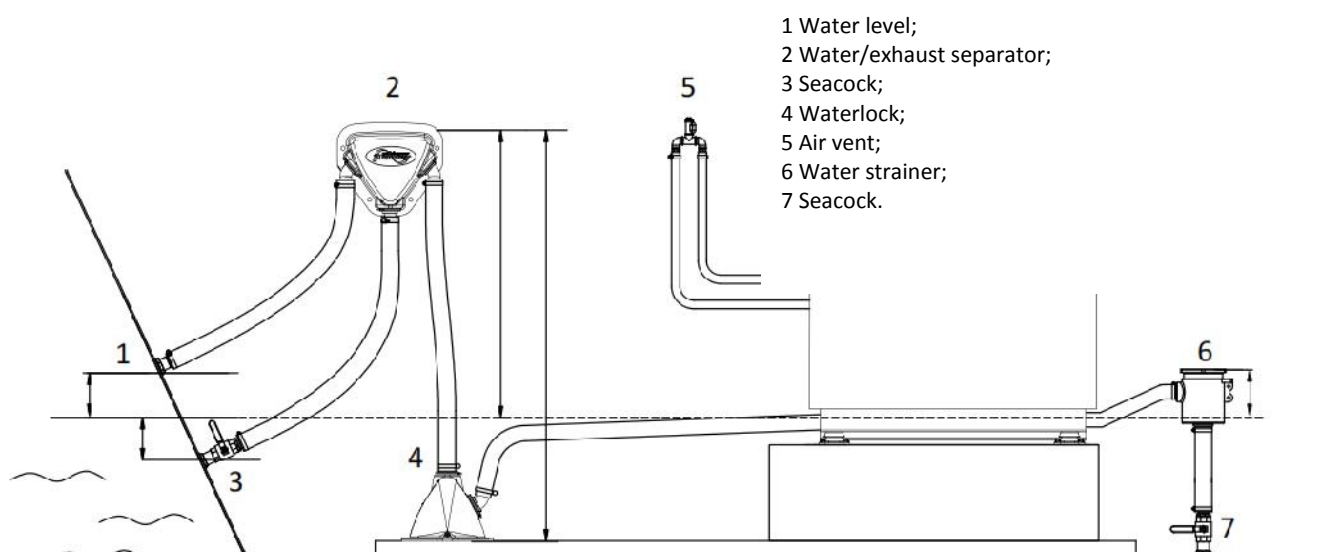

Figure 7: Internal cooling system
Use an appropriate water strainer with connections of 25.4 mm (1"). Install the water strainer in a well accessible position, 5 cm above the waterline (see Figure 7, ref. 6).